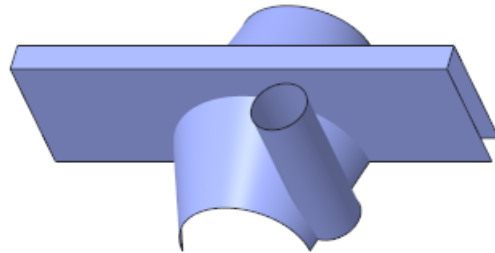

Figure 15-123 Cylindrical surface
5. Exit the Sketcher environment and extrude the sketch to some appropriate depth, refer to Figure 15-123.
The model after creating the surface extrusion is shown in Figure 15-123.